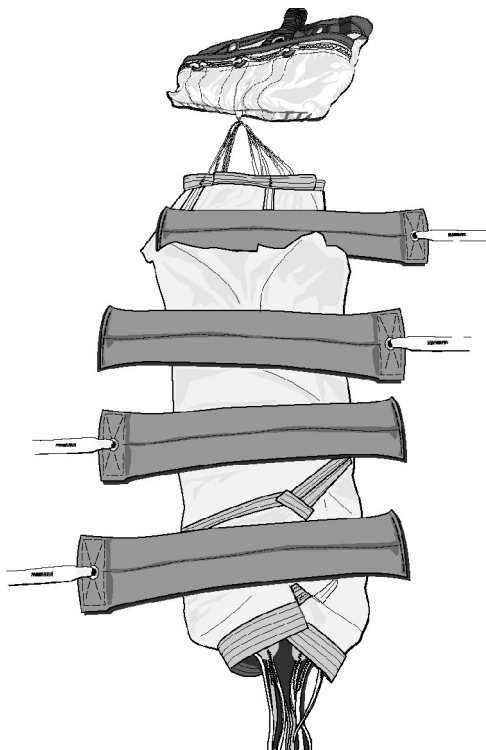

Figure 11. Left Side Panels 1-5 Folded
- l. Take the leading edge and fold the five (5) left-side panels inward (#1-5 panels) and parallel to the suspension lines, over the previously folded panels until the folded width is equal to the width of the deployment bag (Figure 11).